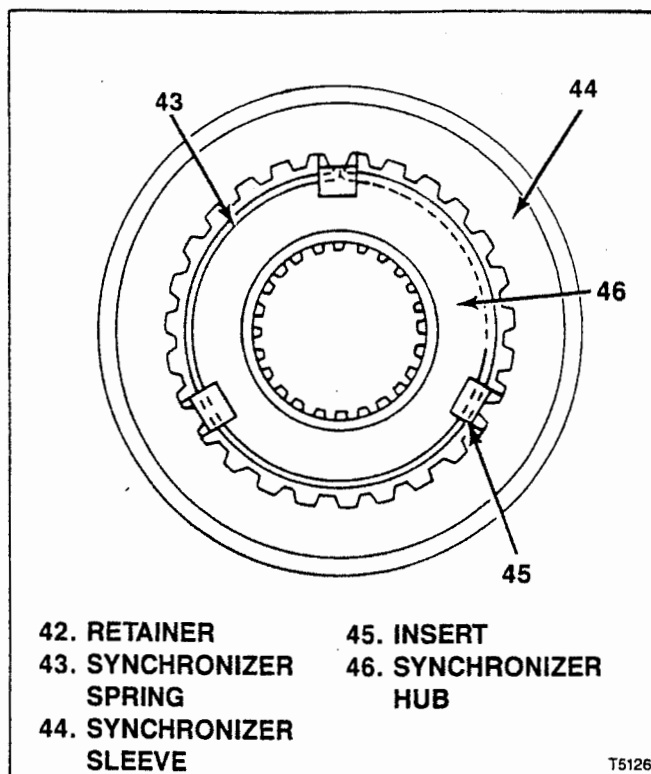

Figure 7-4. T5 NWC 5th Synchronizer Assembled
a. Start sleeve (44) onto hub (46) to a position that will just permit installation of inserts (45). Install inserts (45) then engage clutch teeth fully.
b. Install springs (43) so that tangs at each end of both springs are in the same insert (45) (see figure 7-4).
c. Position sleeve (44) and inserts (45) so that all inserts snap into neutral position.
d. Install retainer (42).